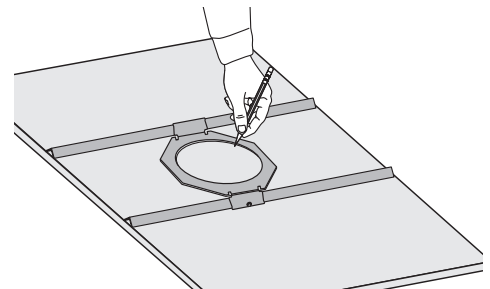

Figure 5
5. Using bracket as template, mark speaker cutout then remove circle using appropriate cutting tool. See Figures 5 and 6.